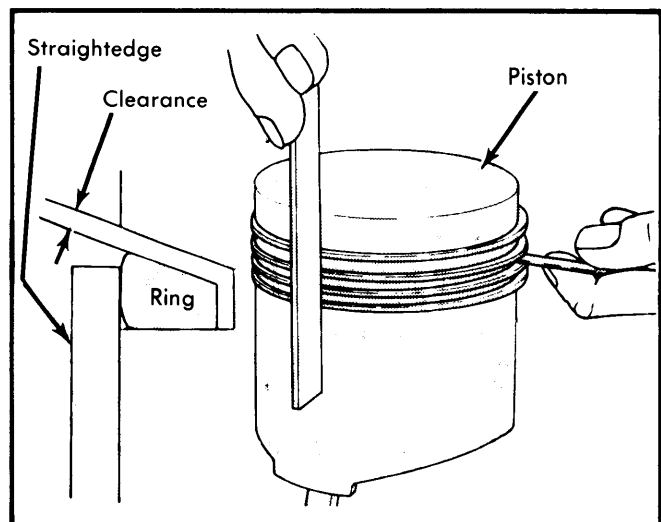

Fig. 9 Measuring Piston Groove
3) Install rings in piston in proper order and measure side clearance as shown in Fig. 9. Hold rings flush with piston surface with straightedge. Insert feeler gauge. Clearances are as follows: